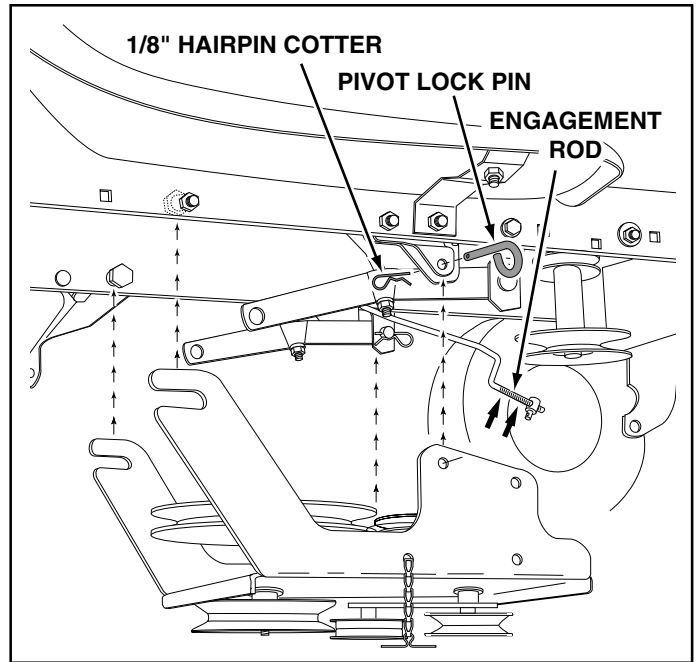

FIGURE 12 RIGHT SIDE VIEW
5. Be sure to lift up the front end of the engagement rod (as shown in figure 12) when performing the next operation. You can temporarily support the rod using a rubber band tied to the engine pulley keeper.
6. Attach the snow thrower's clutch/idler assembly to the tractor frame by sliding the assembly's notched arms onto the two shoulder bolts assembled to the inside of the tractor frame. Lift the front of the assembly and attach it to the R.H. and L.H. hanger brackets using two pivot lock pins and 1/8" hairpin cotters. See figure 12.